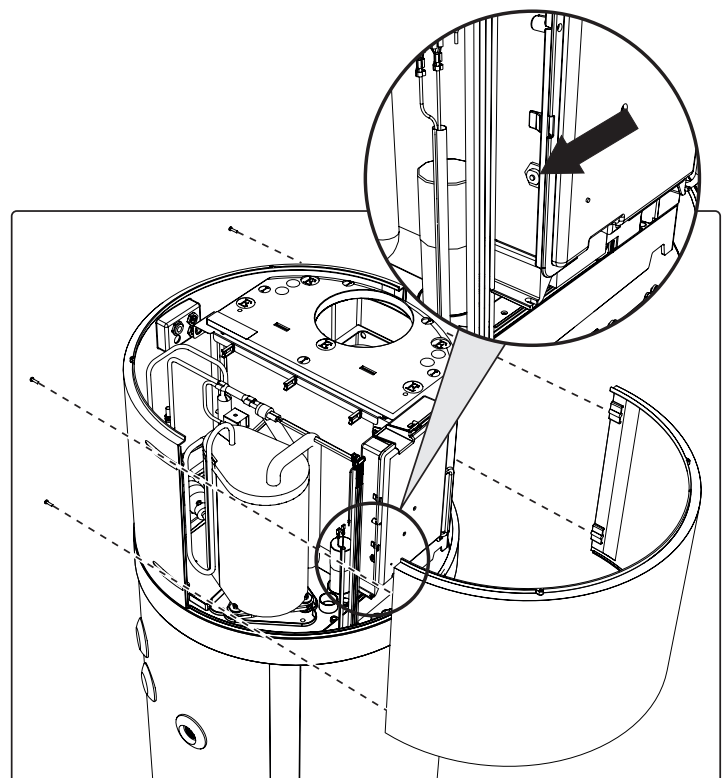

fig. 32- Front panel removal
- Remove the front panel and manually reset the tripped safety thermostat (fig. 32). In case of intervention, the central pin of the thermostat comes out by about 2 mm.